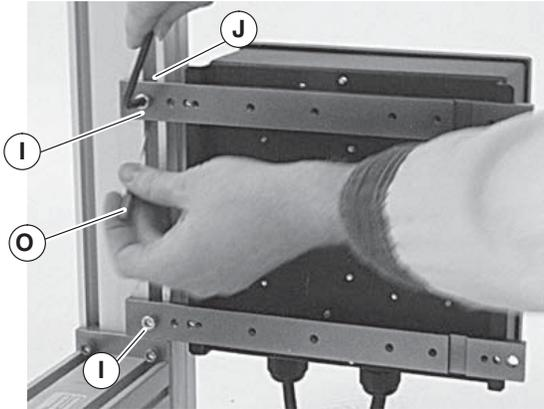

Figure 16
4. With screwdriver (Figure 16, item O), raise T-bar (J) to align it with hole in top mounting bar. Insert M6 screw (I) and partially thread into T-bar.
5. Slide controller to its desired mounting location (Figure 17) and tighten both screws (Figure 16, item I).